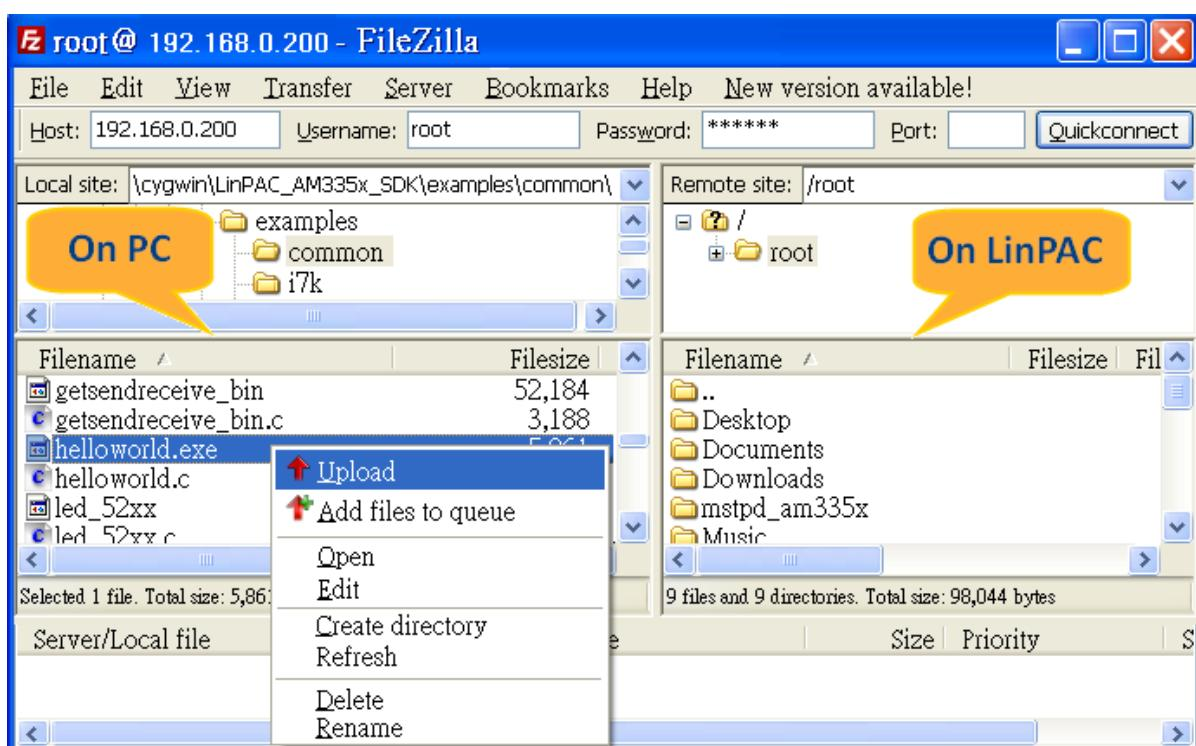

Fig. 3-30
- (3) Upload the “Helloworld.exe” file to the LP-52xx (refer to Fig. 3-30).